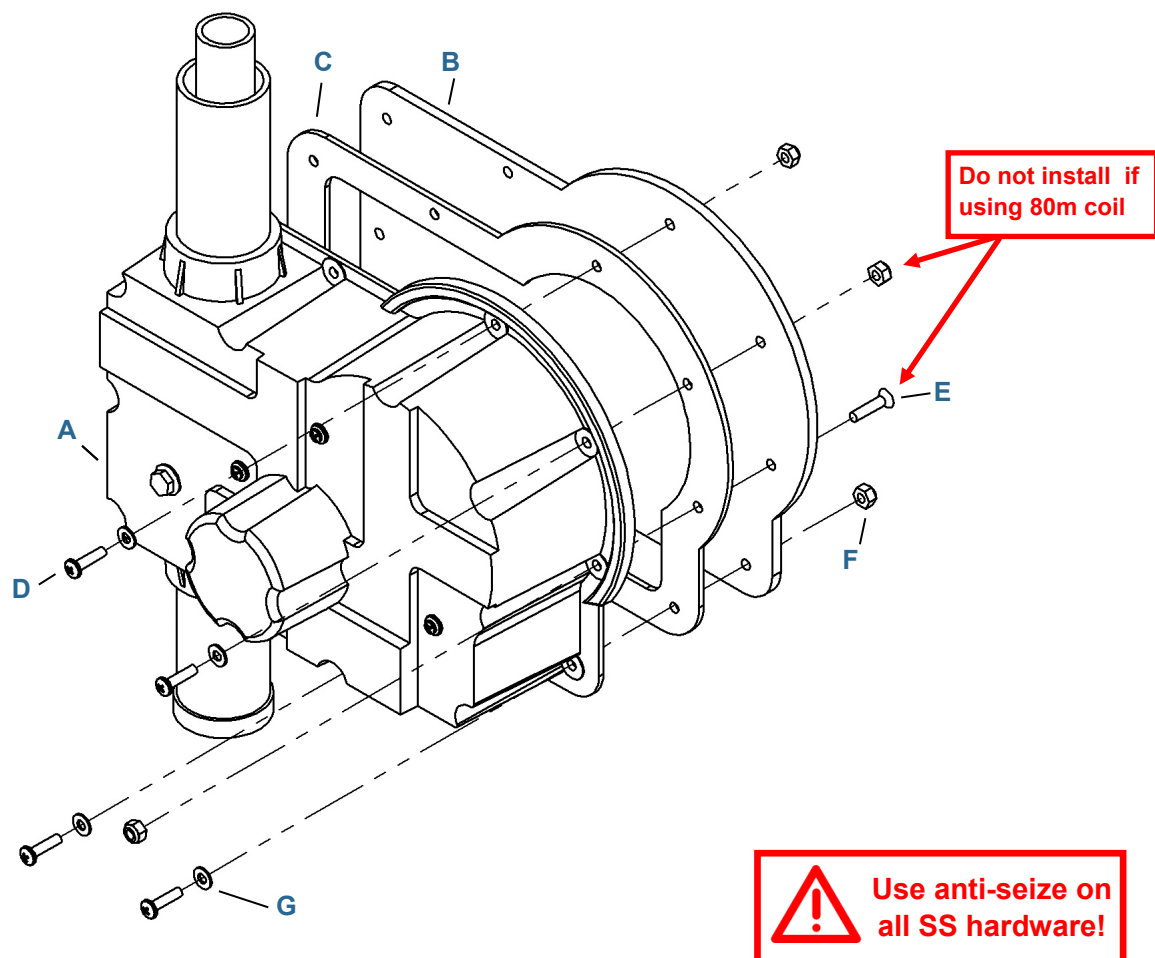

Figure 1.18
11. Wrap the coax seal around the control cable as shown in **figure 1.18**. This will help keep water from entering into the EHU. Repeat this process to the remaining areas of the wire tray as shown in **figure 1.19**.